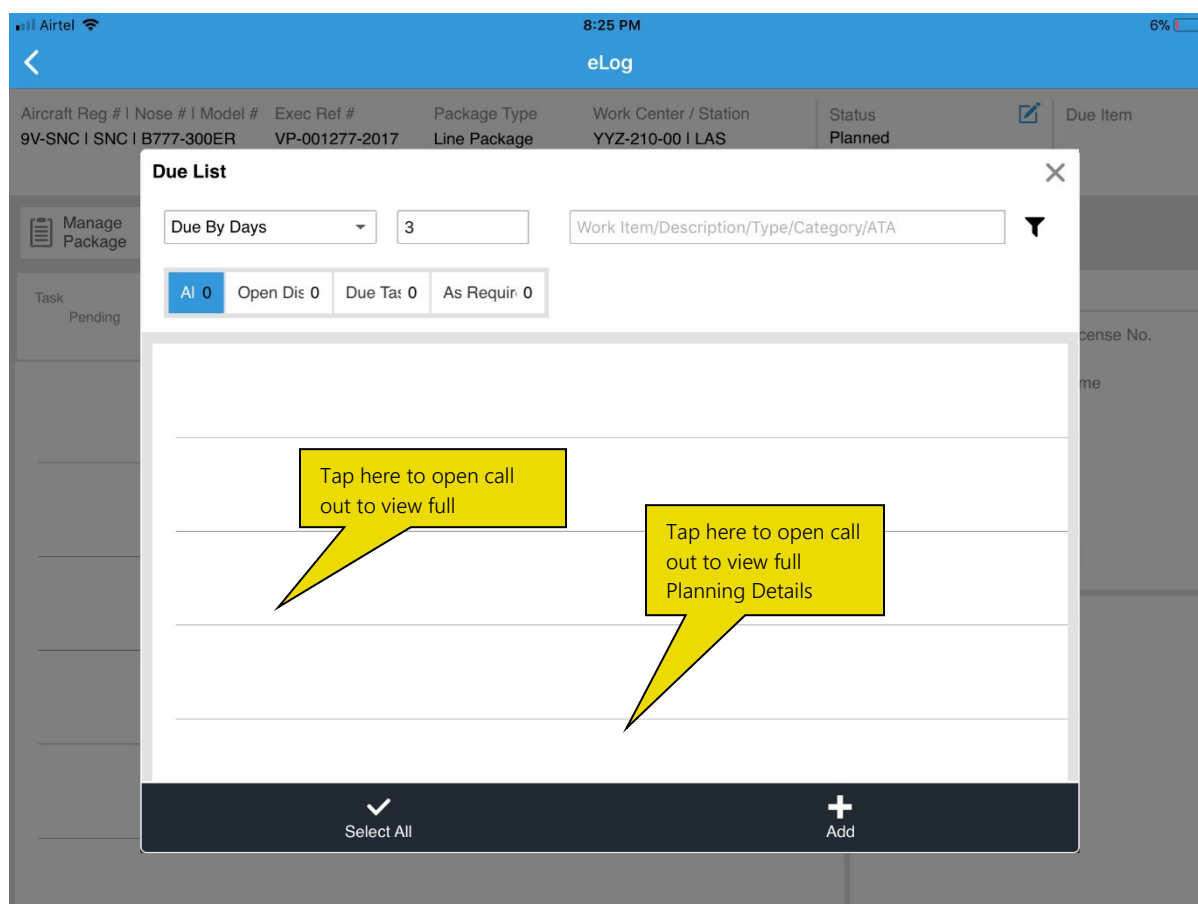

Figure 4. 10: Due List of tasks for aircraft
1. Tap **Due List** from the aircraft record in My Dashboard. See Figure 4. 10.